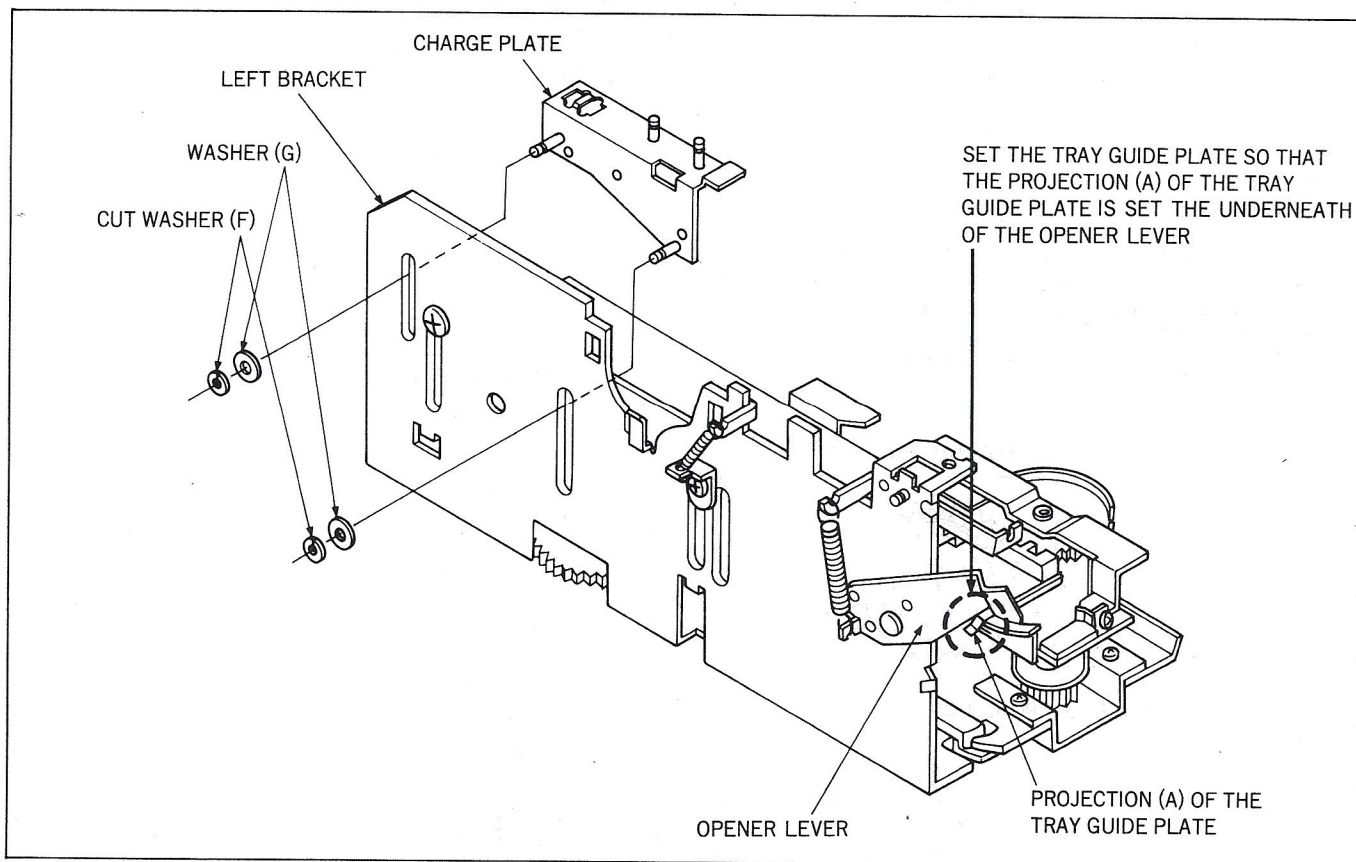
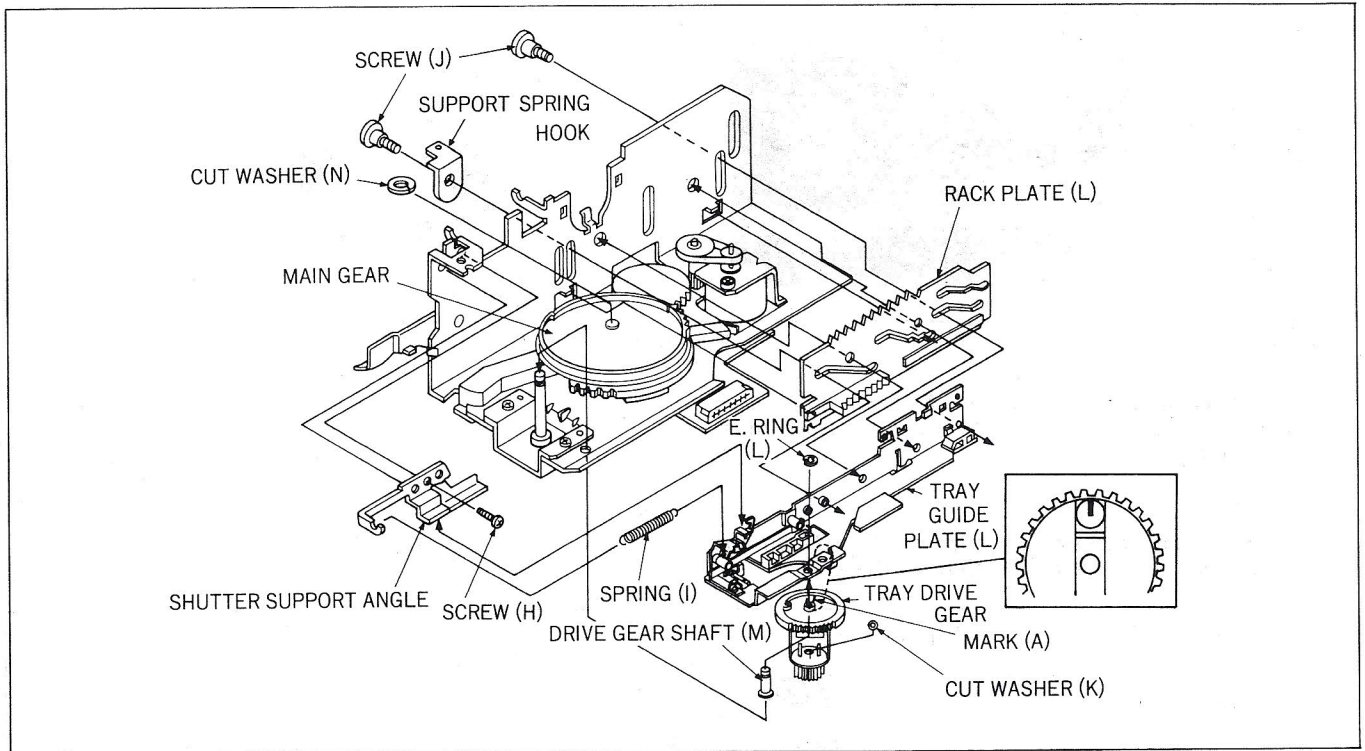

Fig. 6-6
Fig. 6-7
8. Remove screw (H) and spring (I) to remove Shutter Support Angle.
9. Remove the Tray Drive Gear, Tray Guide Plate (L) Rack Plate (L) and Support Spring by removing 2 screws (J), cut washer (K), E Ring
(L) and Drive Gear Shaft (M) as shown in Fig. 6-7.
10. Remove cut washer (N) to remove Main Gear.
3. Install the Drive Gear Shaft from bottom side to hole of the Tray Drive Gear and Tray Guide Plate (L). Then install the E-Ring (L) as shown in Fig. 6-7.
4. Align the Tray Guide Plate (L), Rack Plate (L) and Loading unit according to the following items:
- (a) Set the Tray Guide Plate so that the projection (A) of the Tray Guide Plate is set the underneath of the Opener Lever as shown in Fig. 6-6.
- (b) Install the Tray Drive Gear so that the Mark (A) on the Tray Drive Gear which is seen through hole on the Tray Guide Plate (L) is set to center as shown in Fig. 6-7.
Then install 2 screws (J) to mount the Loading Unit through Support Spring Hook as shown in Fig. 6-7.
5. Install the Charge Plate then install 2 washers (G) and 2 cut washers (F) so as to mount the Loading Unit as shown in Fig. 6-6.
6. Install the Shutter Support Angle then install screw (H) so as to mount the Loading Unit as shown Fig. 6-7.